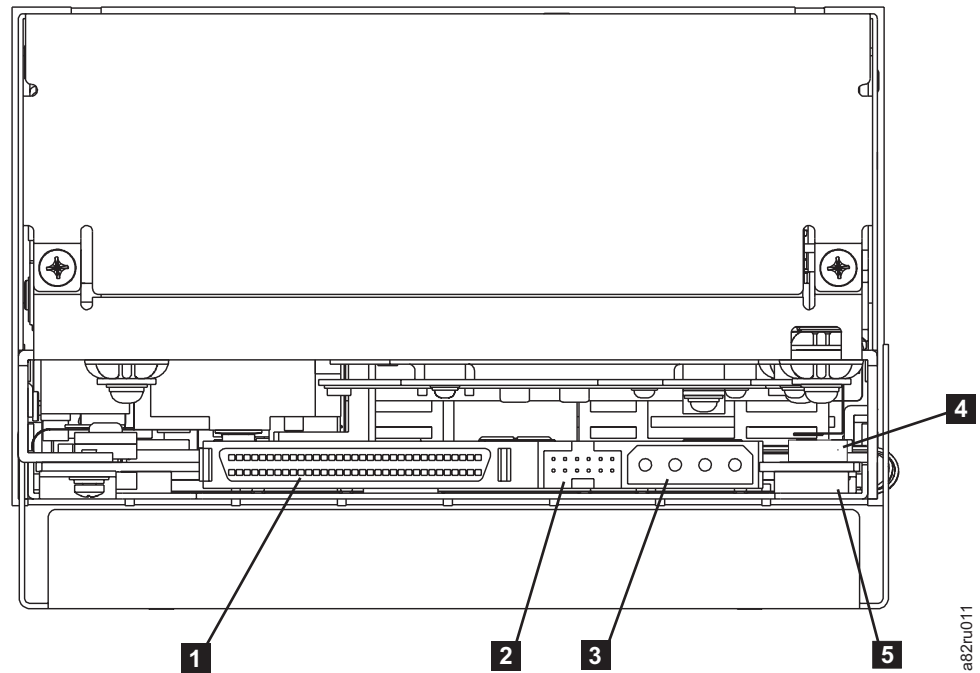

Figure 3. Rear panel of the Ultrium LTO 3 Tape Drive Model Tandberg Storage Solution 840LTO (SCSI drive)
The SCSI ID can be set on the drive by installing 2 mm jumpers on the drive's SCSI ID connector (see **2** in Figure 3 on page 3). Your drive may come set to a default SCSI configuration, with jumpers already installed. To change the default SCSI configuration, contact your sales or technical support representative. You can change the SCSI ID by rearranging, adding, or removing jumpers.
1. Locate the SCSI ID connector (see **2** in Figure 3 on page 3).